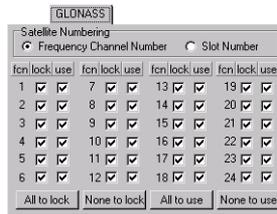

Figure 3-26. GLONASS Tab
- The second tab, as its name implies, deals with the GLONASS satellites (Figure 3-26).